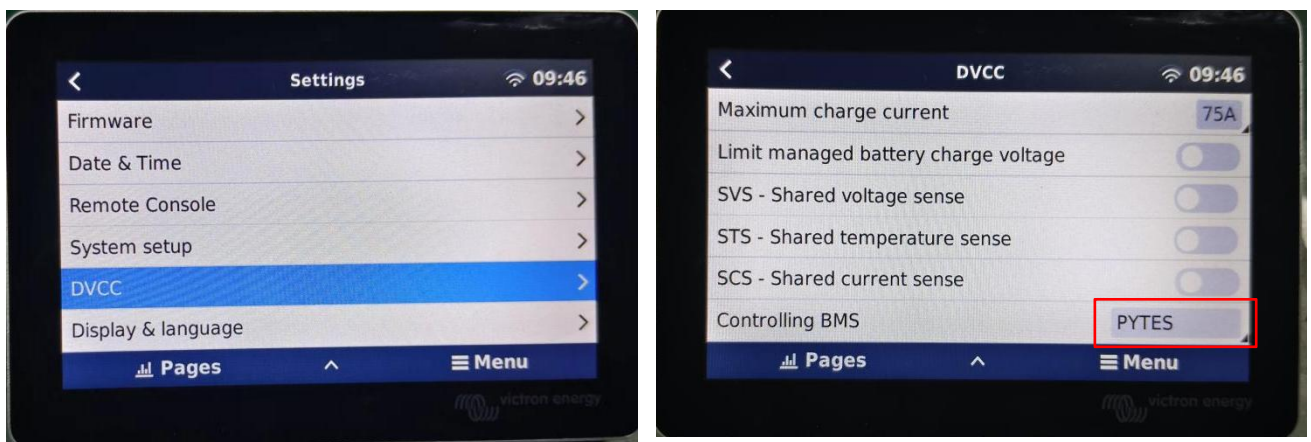

Figure 3.5 DVCC Setting
4. Check DVCC information ,set Controlling BMS to **PYTES** ,as shown in the Figure 3.5.